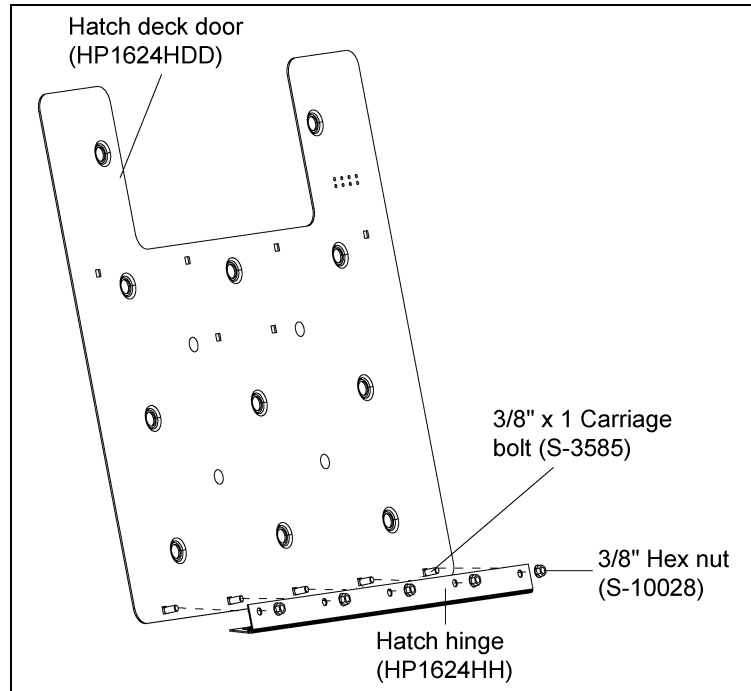

Figure 11A
1. Attach hatch hinge (HP1624HH) to the hatch deck door (HP1624HDD). Orient hinge so that it opens the desired direction. (See Figure 11A.) Fasten using 3/8" x 1" carriage bolts hardware.